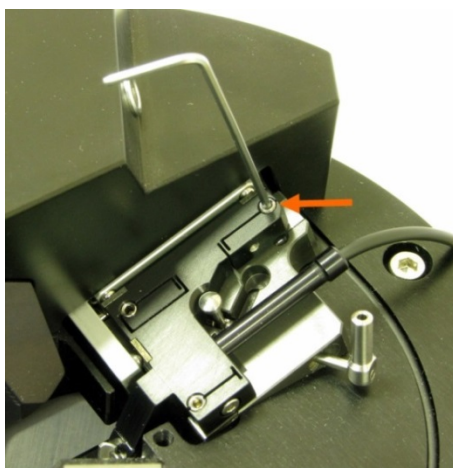

Figure 8.4.2 Adjustment of cantilever holder installed on the instrument.
- Turn the rear support screw to adjust the laser focus (Fig. 8.4.2). Turn the screw clockwise to adjust the holder for cantilevers chip with higher thickness. You can perform this adjustment right on the instrument.